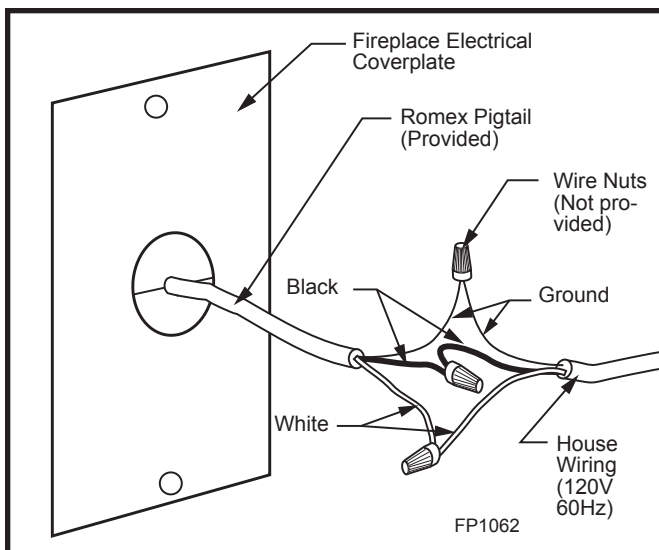

Fig. 9 Wiring diagram.
3. Attach the ground wire from house power to the ground wire of the romex pigtail and secure with a wire nut. (Fig. 9)